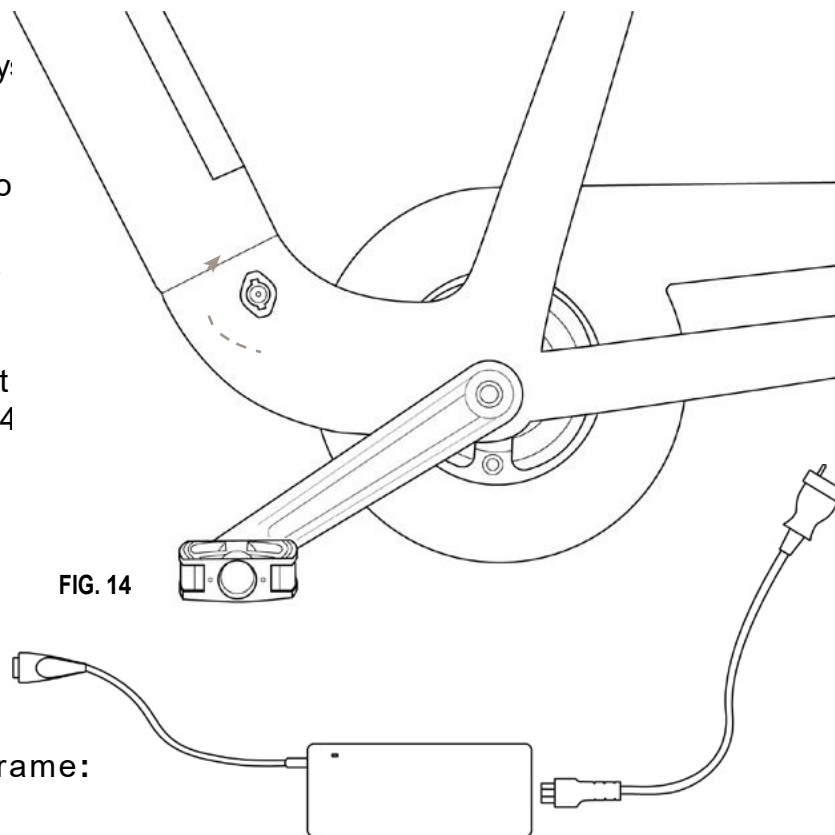

FIG. 14
2. Lift the rubber cap on the battery charging socket, located on the left side of the frame (FIG 14);